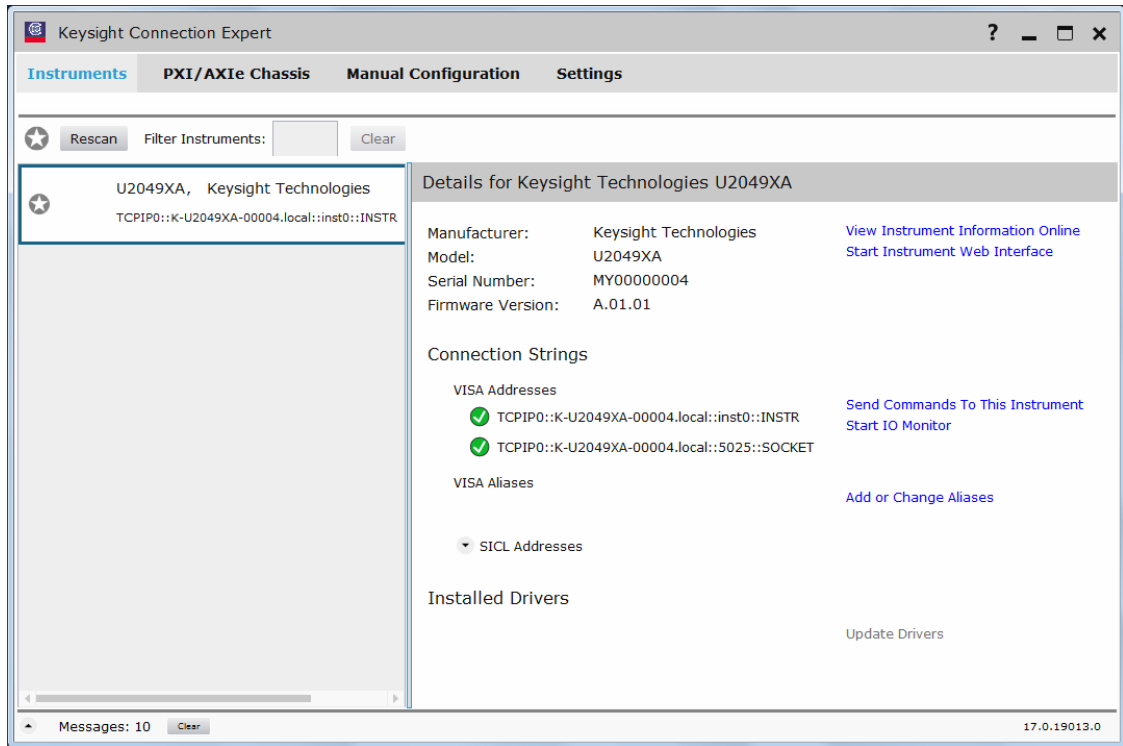

Figure 1-12 Auto-locate a LAN instrument in Keysight Connection Expert via Static IP
- Launch the Keysight Connection Expert by selecting the IO icon (). Auto-locate the U2049XA as shown in **Figure 1-12**. Click **Rescan** to start searching.